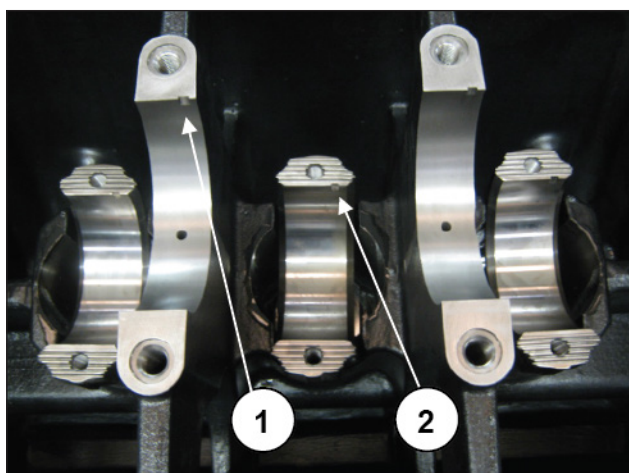

Fig. 96
For correct assembly of the main bearing shells make sure the reference keys are positioned in their locations (pos. ①, ②, Fig. 96).